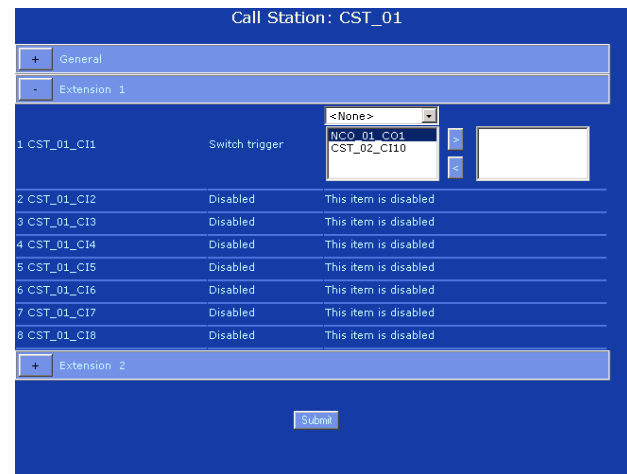

figure 38.38: Switch trigger, step 3
- 3 Click the *Extension* that contains the key that must be configured. A screen similar to the one in figure 38.38 appears in the main frame of the web interface.